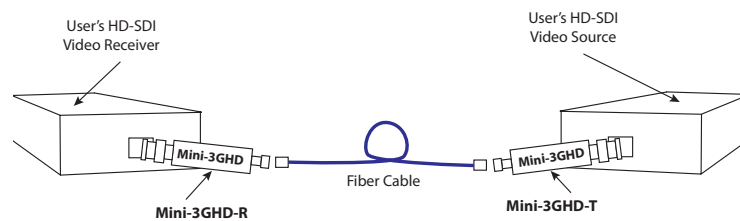

Figure 2-3
3. Cross-connect the fibers from one unit to the other connecting the near end Mini-3GHD unit's optical TX port to the far end Mini-3GHD unit's optical RX port as illustrated in Figure 2-3. Observe the type of connector you have and connect the optical connector by referring to the legend provided in Table 1, and following the instructions and guidelines.